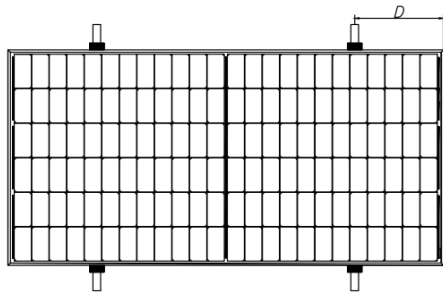
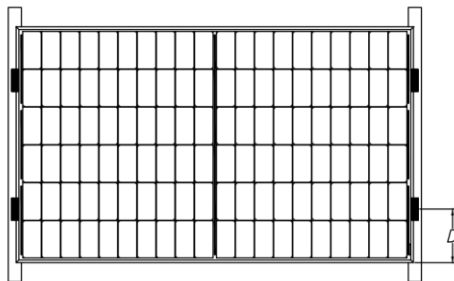
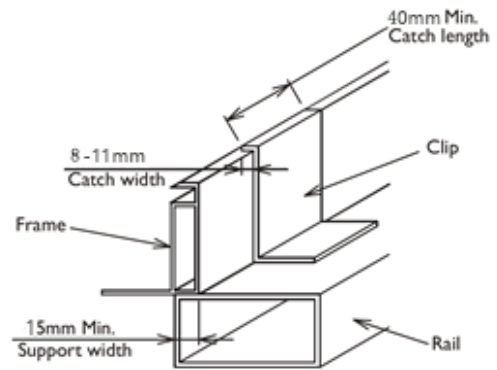

Fig. 11 Rails vertical to the long-side frame
Fig. 12 Rails overlapping the short-side frame
Fig.16 Mounting requirements for rails overlapping the short-side frame
Photovoltaic modules can be installed across the support frame (Fig. 11) or parallel to the frame of the photovoltaic module (Fig. 12). When using clamps to install, each module must be secured with a minimum of 4 clamps.
- ⑧ For the installation method shown in Fig. 12, the module needs to be fixed with professional clamps (as shown in Fig. 16), and the overlap between the C side of the module and the rail should be ≥ 15 mm. Astronergy's limited warranty will be void if improper clamps or improper installation is used.